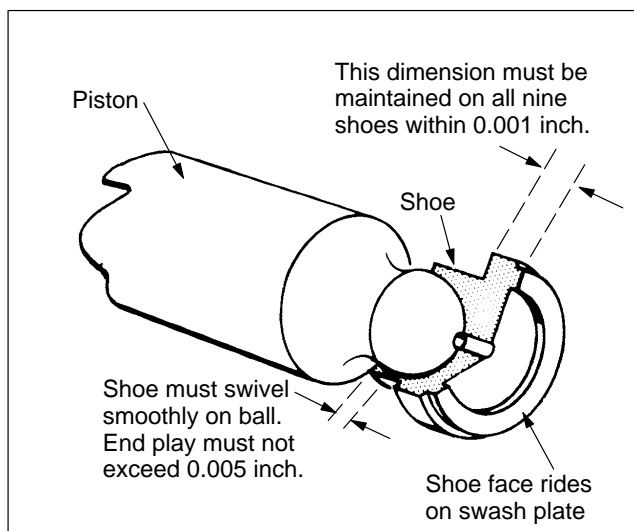

Figure 26: Piston S/A Tolerances
1. Inspect cylinder block face (8) for wear, scratches, and/or erosion. If cylinder block condition is questionable, replace the entire rotating group.
2. Check each cylinder block bore for excessive wear. Use the piston and shoe S/A (37) for this purpose. The pistons should be a very close fit and slide in and out of the cylinder block bores. **NO BINDING CAN BE TOLERATED.** If binding occurs, clean the cylinder block and pistons. Lubricate the cylinder block bores with clean fluid and try again. Even minor contamination of the fluid may cause a piston to freeze up in a cylinder bore.
3. Inspect each of the nine piston and shoe subassemblies (31) for a maximum end play of 0.005 inch between the piston and shoe. Also check the face dimension of each shoe. The face dimension must be within 0.001 inch. See Figure 26.
10. Lubricate cylinder block (29) with clean hydraulic fluid. Install the nine piston subassemblies (37) into shoe plate (36) as shown in Figure 26.
11. Feed nine pistons (37) into the cylinder block bores. Then install rotating parts 29 through 40.
12. Align rotating group with the yoke (40) subassembly. Add spacers (38) and limiter plates (35) and attach to yoke (40) with four screws (34). Seat yoke (40) on saddle bearings (42 and 43).
13. Install upper bearing plug (24) and lower bearing cover (27) and tighten three screws (26) to 7.5-9.5 Nm.
14. Install tail bearing (23) on shaft (39) next to shim (22).
15. If required, assemble o-ring (15) on bias rod (14) and o-ring (11) or control rod (10). Apply one drop of Loctite 270 cement to bias rod and control rod threads. Install the bias and control rods into valve block (8). Secure the stems with a hex key wrench.
16. Assemble adjusting screw (54) with o-ring (53) into valve block. Slide control piston (56) on control rod (55). Install lock nut (52).
17. Assemble spring (13) and piston (12) on bias rod (14). Install piston (9) on control rod (10).
18. Insert pins (19) into valve block (8).